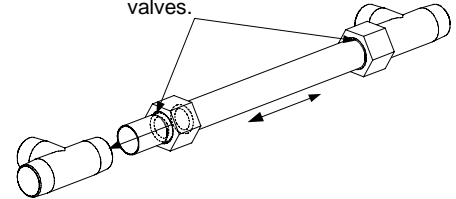

Figure 2. Slip-nut/drainpipe detail.
2. Remove door from fryers to be connected by lifting the door upward and removing the door pin from the bottom hinge. Remove slip-nuts from drain-tees on fryers being connected, lubricate O-rings with vegetable oil and install on drainpipe (Fig. 2). ***Use care not to damage the slip-nut O-rings when installing slip-nut on drainpipe.*** Insert the drainpipe into the fryer drain-tee (Fig. 3). Screw slip-nut onto the tee but do not tighten at this time. Position fryers being connected within 6 inches of each other, near the permanent installation area. Guide the drainpipe through the opposite fryer cabinet opening as the cabinets are positioned.